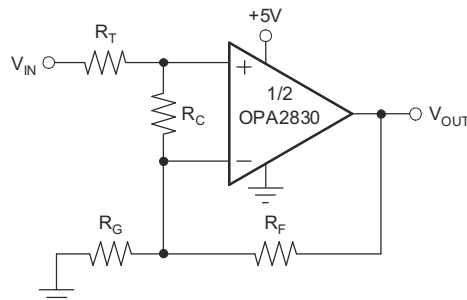

Figure 8-8. Compensated Noninverting Amplifier
Figure 8-8 shows a noninverting amplifier that reduces peaking at low gains. The resistor  $R_C$  compensates the OPA2830 to have higher Noise Gain (NG), which reduces the ac response peaking (typically 4dB at  $G = +1$  without  $R_C$ ) without changing the dc gain.  $V_{IN}$  needs to be a low impedance source, such as an op amp.
Frequency response in a gain of +2 can be modified to achieve exceptional flatness simply by increasing the noise gain to 3. One method, without affecting the +2 signal gain, is to add a 2.55kΩ resistor across the two inputs (see Figure 8-8). A similar technique can be used to reduce peaking in unity-gain (voltage follower) applications. For example, by using a 750Ω feedback resistor along with a 750Ω resistor across the two op amp inputs, the voltage follower response is similar to the gain of +2 response of Figure 8-2. Further reducing the value of the resistor across the op amp inputs, further dampen the frequency response due to increased noise gain. The OPA2830 exhibits minimal bandwidth reduction going to single-supply (5V) operation as compared with ±5V. This minimal reduction is because the internal bias control circuitry retains nearly constant quiescent current as the total supply voltage between the supply pins is changed.
The criterion for setting this  $R_S$  resistor is a maximum bandwidth, flat frequency response at the load. For a gain of +2, the frequency response at the output pin is already slightly peaked without the capacitive load, requiring relatively high values of  $R_S$  to flatten the response at the load. Increasing the noise gain also reduces the peaking (see Figure 8-8).